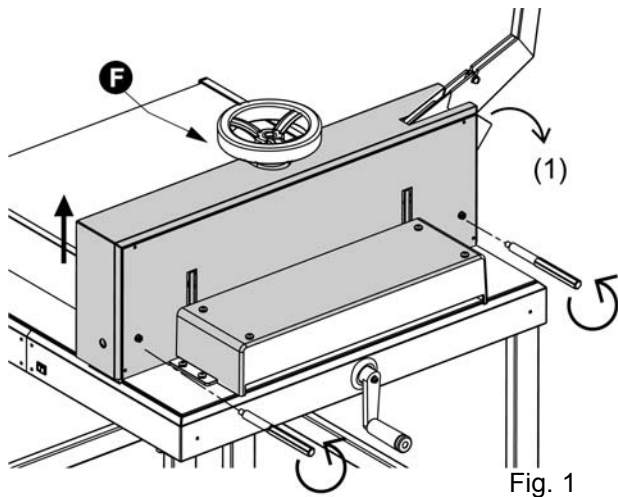
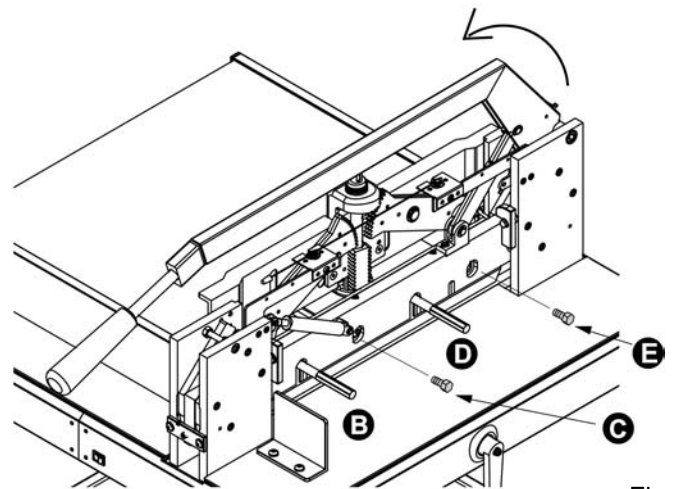

Fig. 1
Fig. 2
- (1) Remove the safety cap.
- (2) Move the blade lever to its topmost position.
- (3) Remove the screw (F) on the clamp wheel and detach the wheel from the chassis. (Fig. 1)
- (4) Remove all screws from the cover.
- (5) Place the blade lever at 75° to table and take off the cover.
- (6) Lower the blade lever to its horizontal position. (Fig. 2)